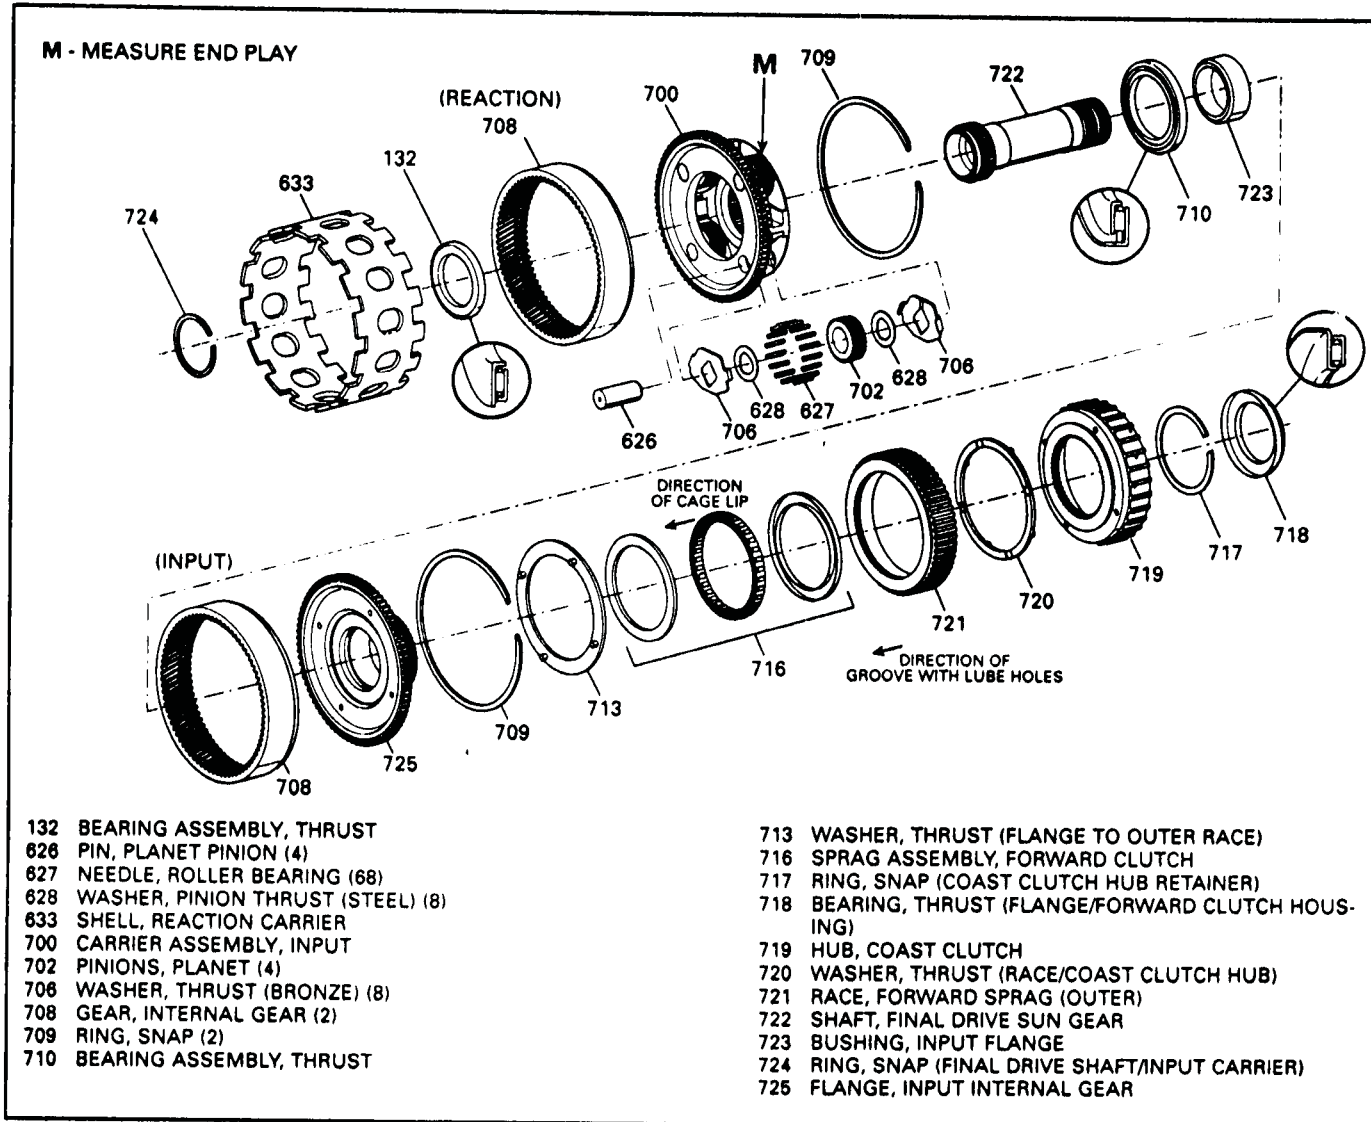

Figure 71
9. Disassemble all components as shown in Figures 71, 73, and 75.
10. Clean thoroughly and blow dry with compressed air all components shown in Figures 71, 73, and 75.
11. Inspect all components shown in Figure 71, 73, and 75.
7. Install thrust washer (720) onto coast clutch hub (719) and retain W/TransJel. (See Figure 71).
9. Install snap ring (717) to retain the coast clutch hub (See Figure 71).
10. Install thrust bearing (718) onto the coast clutch hub with the lip facing down, as shown in inset in Figure 71. Retain bearing with TransJel.
1. Install input carrier (700) into the reaction internal gear (708) and then install snap ring (709) as shown in Figure 71.
2. Install thrust bearing (710) onto the input carrier with lip facing down as shown in Inset in Figure 71. Retain with TransJel and set aside for final assembly.
3. Install input internal gear flange(725) to input internal gear (708) and install snap ring (709) as shown in Figure 71.
4. Install thrust washer (713) onto input ring gear flange and retain with Trans Jel (See Figure 71).
5. Install forward sprag, with lip facing direction shown in Figure 71, and end bearings onto input ring gear flange.
6. Install forward sprag outer race (721) with groove facing direction shown in Figure 71, by rotating counterclockwise into place.